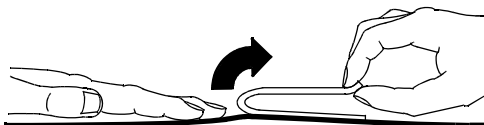

Figure 6-3 Removing Therapy Electrodes from Skin
1. Slowly peel back the therapy electrode from the edge, supporting the skin as shown in Figure 6-3.